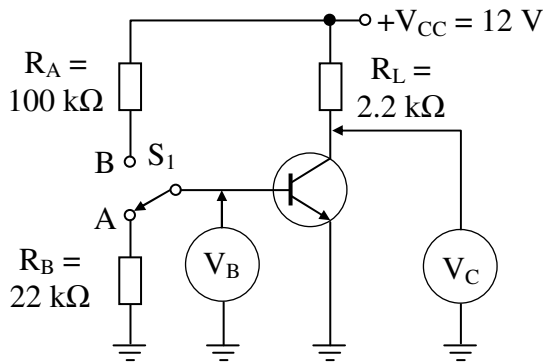

Fig. 6.3 Schematic diagram of the bipolar transistor used as a switch
Refer to Fig. 6.3 and note that when switch S_1 is in position A, the emitter-base junction is reverse biased ($V_B = 0$ V), the transistor is not conducting (off), and the total circuit voltage ($+V_{CC}$) will appear at the collector (V_C , or across collector and emitter). When S_1 is in position B, the emitter-base junction is forward biased ($V_B \approx 0.7$ V), the transistor is conducting (on), and the collector voltage will be near ground potential ($V_C \approx 0.2$ V). The transistor is saturated in this condition.
1. Construct the circuit shown in Fig. 6.3.